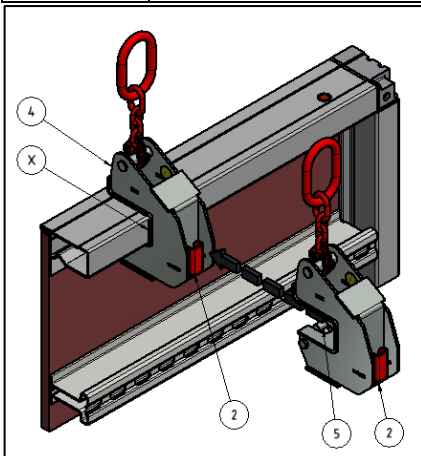

Figure 5: Attaching NOEtop crane hook
Push the crane hook into the NOEtop profile as illustrated in Fig. 5, until it engages in the profile (see 7). The retaining bolts (5) will engage automatically in the profile.
<p>Check that the actuating lever (2) retracts fully to its initial position (see Fig. 5) on the NOEtopcrane hook (4).</p>
<p>Set down the load in such a way that the actuating lever (Fig. 5) cannot strike against or the NOEtop crane hook come to rest on an obstructing object.</p>
Check that the actuating lever (2) retracts fully to its initial position (see Fig. 5) on the NOEtop crane hook (4).